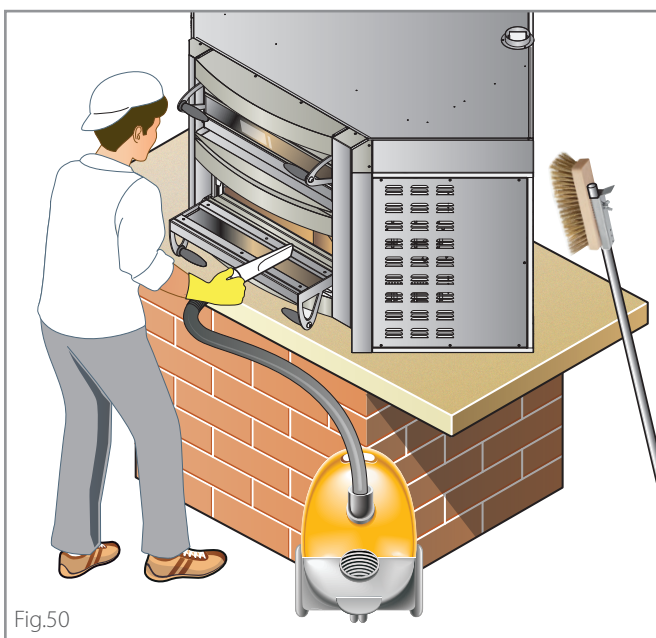

Fig.50
- ① Close the chimney touching the relative key.
- ② Set the **chamber temperature to 400 °C - 752 °F**.
- ③ Acting on the **"MIN"** and **"MAX"** keys, set both the **top** and **bottom powers** to **MAX**.
- ④ Switch the lights of the cooking chamber off.
- ⑤ When the temperature has been reached, switch the oven off with the **ON/OFF** key and let it cool down with the door closed.
- ⑥ With a cold oven, clean the chamber from the crystallized food residues using a natural fibre brush and then vacuum with an ash extraction bin ► **Fig.50**
- ② Touch the **ON/OFF** key.
- ③ Touch the **PYROLYSIS** key.
- ④ Confirm pressing **✓**: the heating of the oven chamber starts until the temperature of 400 °C - 752 °F is reached, when the function stops (to block the function early, press the **PYROLYSIS** key again).
- ⑤ With the oven cold, clean the chamber from the crystallized food residues using a natural fibre brush and then vacuum with an ash extraction bin ► **Fig.50**.